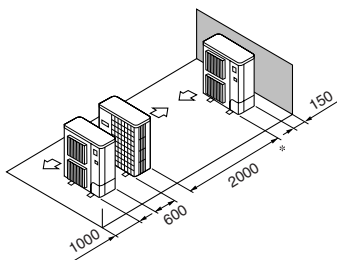

Fig. 3-15
- ⑤ Single parallel unit arrangement (Fig. 3-15)